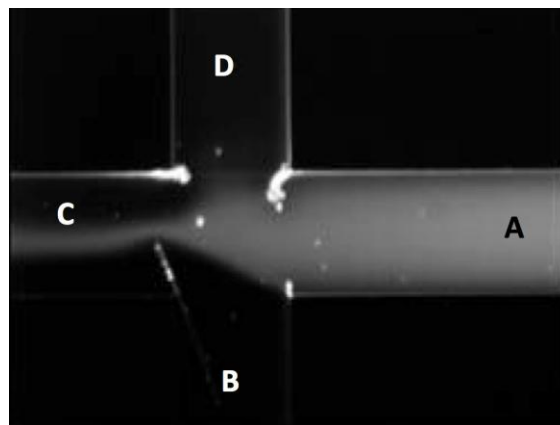
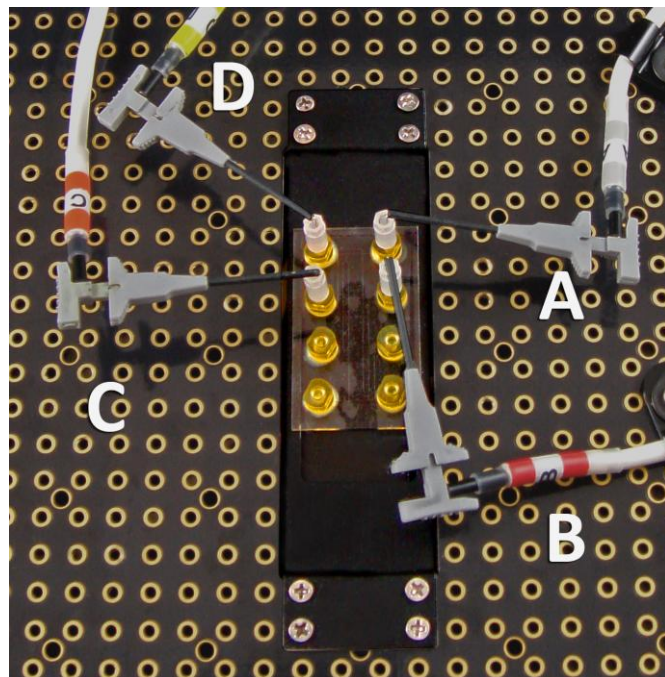

Figure 2. Pinched injection of Oregon Green in Caliper NS 12A Chip.
Figure 3. Match the cables with the correct reservoirs and inputs on the HVS448.
- Place the electrodes in the CapTite™ reservoirs, and connect them to the terminals of the HVS. Make sure that **Terminal A** goes to sample, **B** to buffer waste, **C** to sample waste, and **D** to buffer (Figure 3).
- Adjust the applied voltage in Channels **A, B, C,** and **D** until you observe a pinched injection (Figure 2). Record and program into the Simple Sequence Wizard in the step labeled "Load". Repeat in the manual mode (Figure 3) for the run condition (sweeping injected plug to Reservoir **B**) and input those settings into the step labeled "Injection."